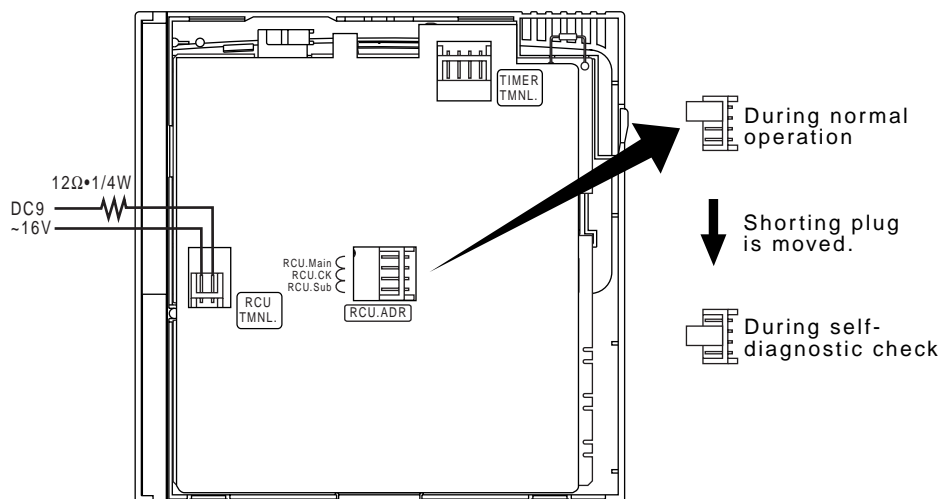

Fig. IV-6
In order to check, the shorting plug (2P) inserted in the socket (4P) on the back of the remote controller circuit board should be moved from RCU.Main to RCU.CK. (Ref. Fig. IV-6)
- 2) The remote controller self-diagnostic function can be run on a remote controller independently if power of 9–16 VDC is supplied to plug 2P as shown in Figure IV-6. (A 12-Ω 1/4-W resistor must be placed in between.)